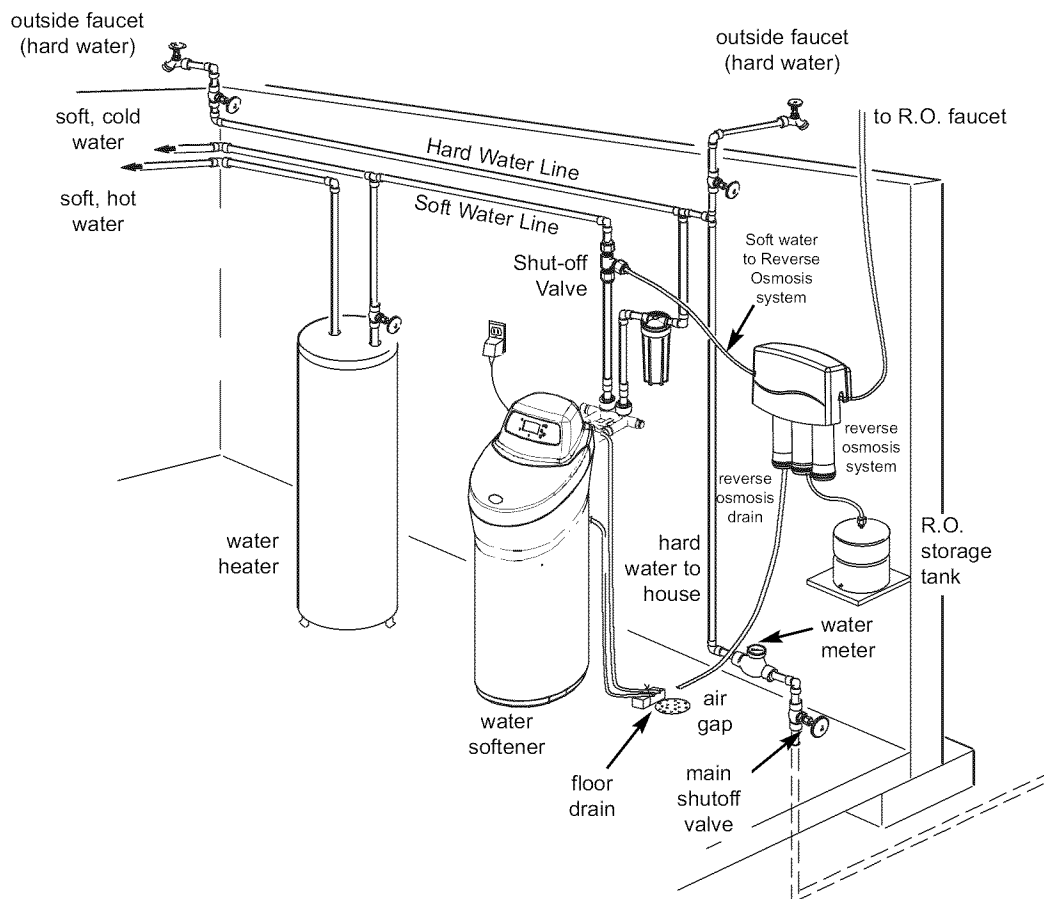

FIG. 3
1. Place as close as possible but always after, the pressure tank (well water) or water meter (city water). See Fig. 3.
2. Place as close as possible to a water drain such as a floor drain, laundry tub, sump or standpipe. See Fig. 3.
3. Connect to the house main water pipe **BEFORE THE WATER HEATER**. See Fig. 3. **Temperature of water going through the softener must not be more than 120°F (49°C).** Hot water will damage inner softener parts. *To reduce the risk of hot water backup*, piping between the softener and water heater should be as long of a run as possible.
4. Keep outside faucets on hard water to save soft water and salt. See Fig. 3.
7. A grounded, 120V electrical outlet is needed within 10 feet of the softener. See Fig. 3. This is to plug in the transformer. The softener has a 10 foot power cable. **Be sure the outlet and transformer are in an inside place, to protect from wet weather.** Use a continuously "live" outlet, which cannot be accidentally switched off.